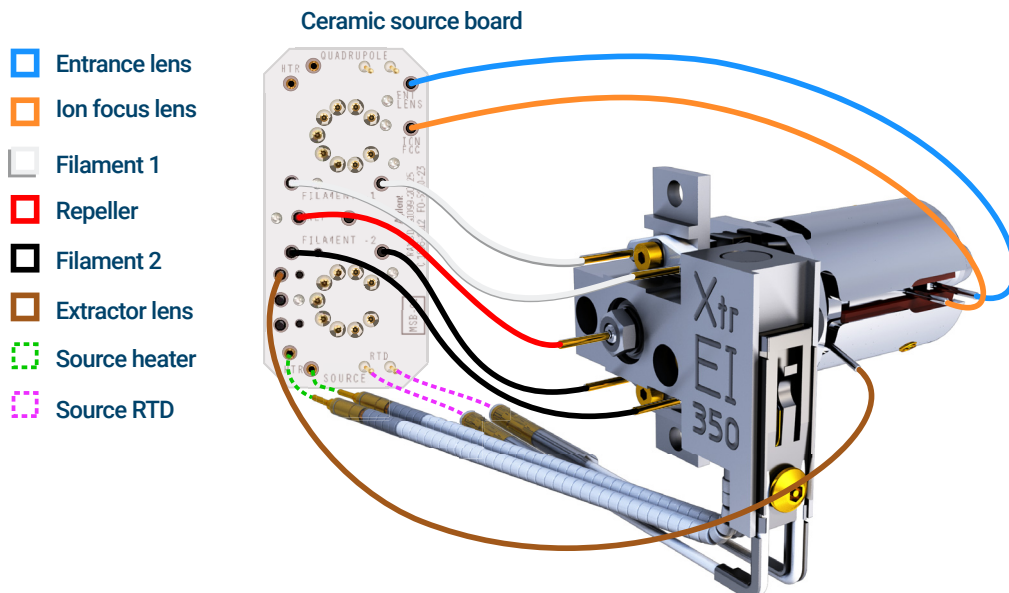

Figure 49. Wiring for the EI XTR
- 2 Use tweezers or pliers to connect or disconnect the source heater wire leads at the ceramic source board (CSB). (See Figure 49.)